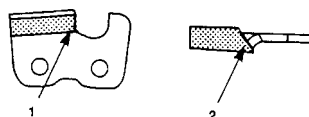

Fig. 4-7
6) File enough to remove any damage to (~) 6 cutting edges (side plate (1) and top plate (2)) of cutter. (Fig. 4-7)